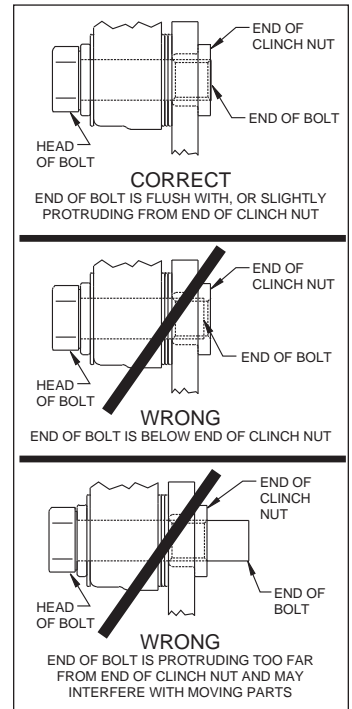

Figure 3. Clinch Nut Engagement Diagram
Assembly Instructions (numbers in parenthesis refer to the parts list and Figure 1 on the preceding pages): **CAUTION:** *All mounting bolts must fully engage clinch nuts.* Be sure to check that all bolts are either flush or protruding through flanged side of clinch nut after shimming, Figure 3.
- Install the o-ring (27) onto the dust cap (19). Press the dust cap into the hub (9), Photo 9.
- NOTE:** *Please reference the caution statement at the beginning of the assembly instructions. Mount the caliper (20) onto the caliper mounting bracket (5) using bolts (21) and washers (22), as shown in Figure 1. Initially place one .035" thick shim (23) on each bolt between the caliper and the bracket, Photo 10. Temporarily tighten the mounting bolts and view the rotor (14) through the top opening of the caliper. The rotor should be centered in the caliper, Photo 11. If not, adjust by adding or subtracting shims between the bracket and the caliper. Always use the same amount of shims on each of the two mounting bolts. NOTE: The end of each bolt must be flush with or slightly protruding from the head of the clinch nut, as shown in Figure 3. If necessary place spare shims between washer (22) and caliper mounting ear to achieve the proper clinch nut engagement. Once the caliper alignment and clinch nut engagement are correct, remove the bolts one at a time, apply red *Loctite*® 271 to bolt threads, and torque to 40 ft-lb.*